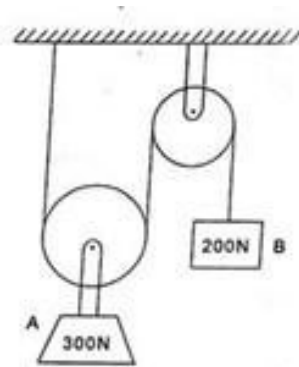

Figure 7: 8B
- (b) Find the velocity of **Block B** shown in **fig 7**, after 5 seconds starting from rest the axis of the cam shaft.